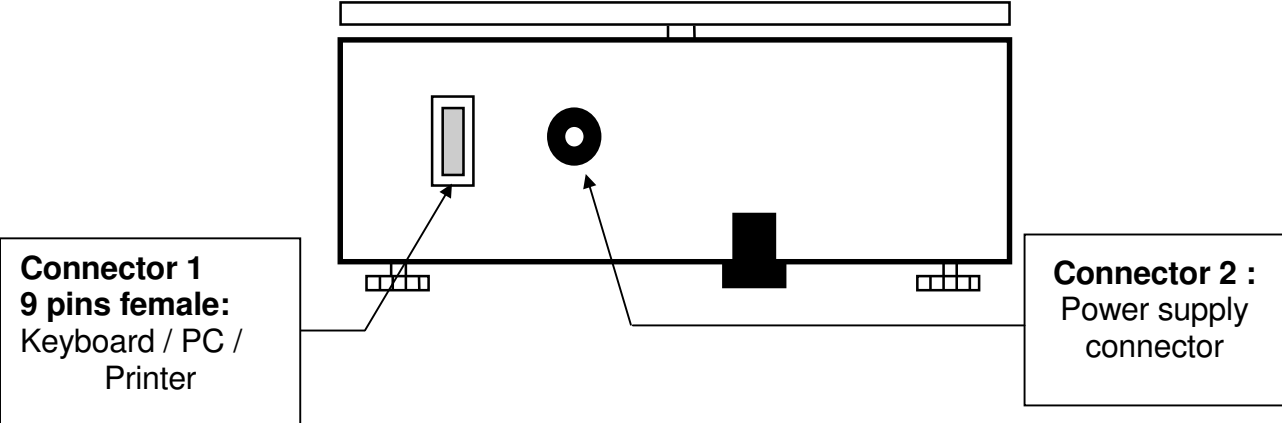

Fig. 1 Rear side of the balance
Selecting the transmission to PC (personal computer IBM compatible), it is achieved a continuous transmission output, at the same rate of weight update on display of the balance. It is possible to perform all the functions of the balances directly from the computer keyboard, transmitting to the balance the ASCII codes as in the table below. The connector to use for connection to PC is the number 1 (fig.1 pag. 49).
3. Selecting the transmission to PC at user command, it is achieved a transmission output only when the **PRINT** button is pressed, also in this case it is possible to perform all the functions of the balance directly from the keyboard of the computer, sending to the balance the ASCII codes in the table above. The connector to use for connection to PC is the number 1 (fig.1 pag. 49).
To receive/transmit data, connect the connector 1 (fig.1 pag. 49) of the balance to the serial port of the PC as shown below:
The connector to be used for the connection is the number 1 (fig.1 pag.46)